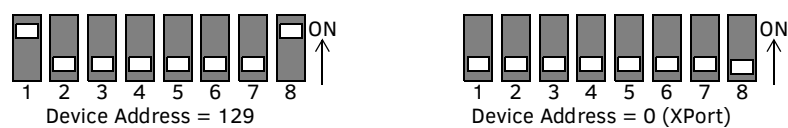

FIG. 27 Example Device DIP Switches
2. Locate the 8-position Device DIP switch on the rear panel (FIG. 27).
The device number is set by the total value of DIP switch positions that are ON (up). As an example, the first DIP switch in FIG. 27 defines device number 129 ($1+128=129$).